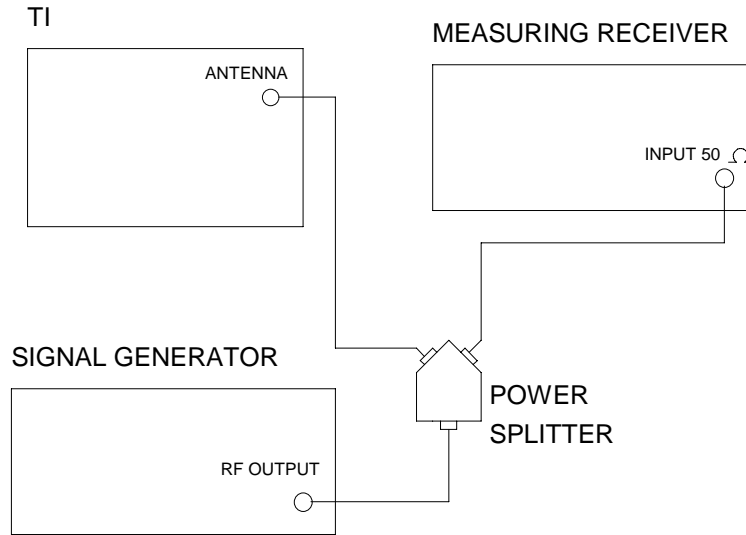

Figure 3.
4.4.2.1 Connect equipment as shown in Figure 3.